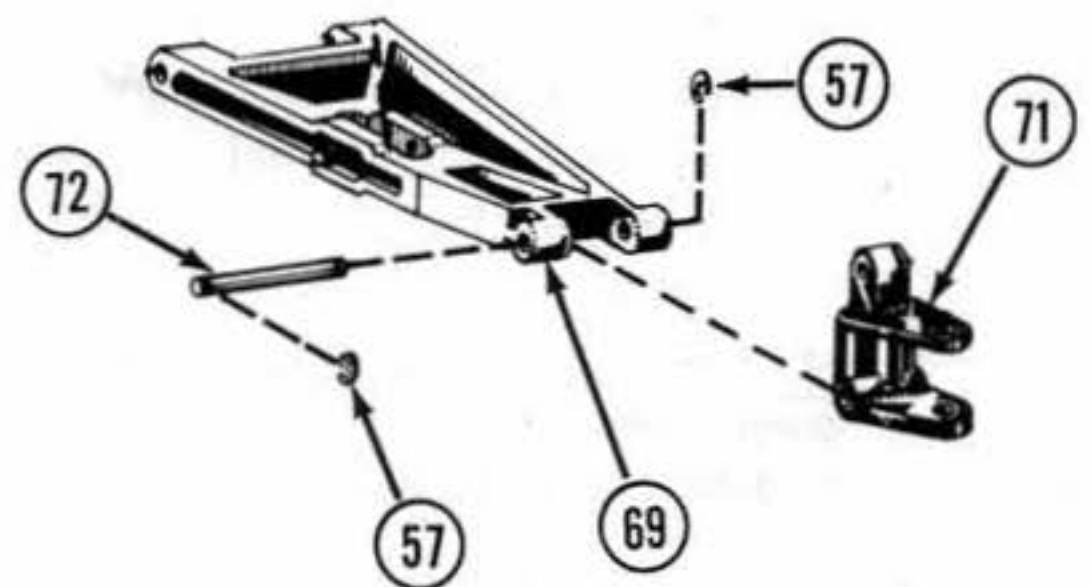

FIG. 29
7. Attach the spindle carrier (71) to the A-arm (69) with the main body pointing upward using a 1/8" X .960 hinge pin (72) as shown. Secure with two 1/8" E-clips (57). Fig.29